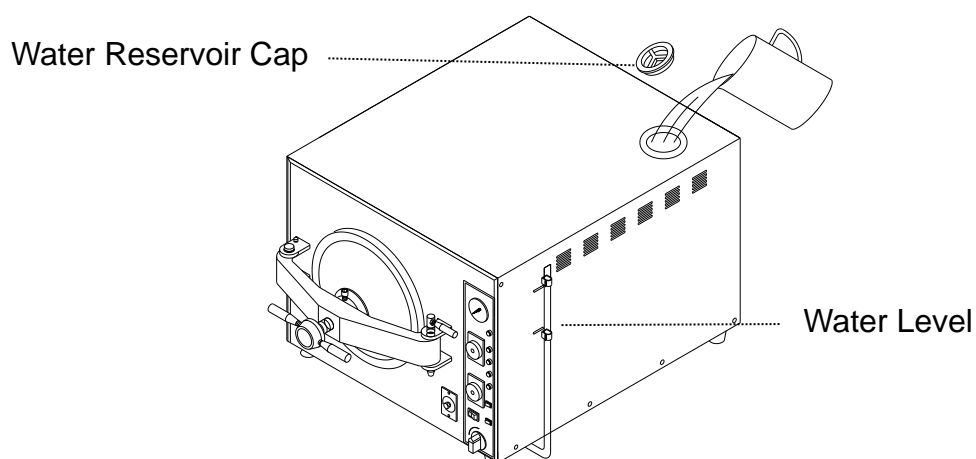

Figure 3
B. Open the water reservoir cap; pour distilled water into the water reservoir as Figure 3.